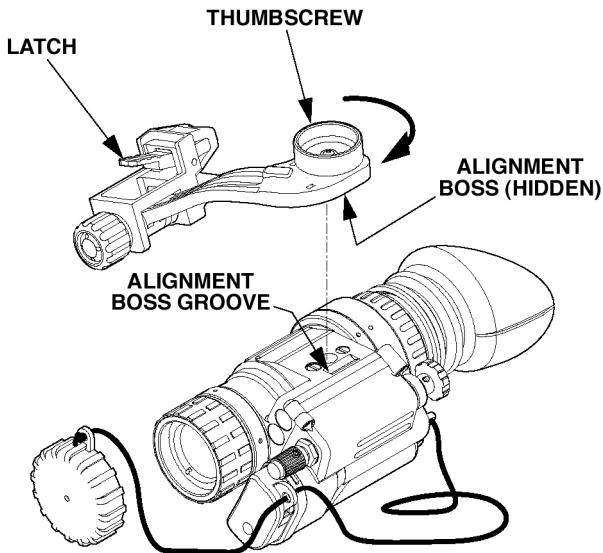

Figure 2-11. Headmount/Helmet Mount Adapter Installation.
(4) Hold the LIF by the ridged end (see Figure 2-11) and thread it clockwise, into the end of the objective lens.
Install the headmount/helmet mount adapter (Figure 1-1) into the monocular by aligning thumbscrew to hole and tightening as shown in Figure 2-11. There is an alignment boss on the headmount/helmet mount adapter that fits into a groove on the monocular. Make sure the boss on the adapter fits into the groove on the monocular.